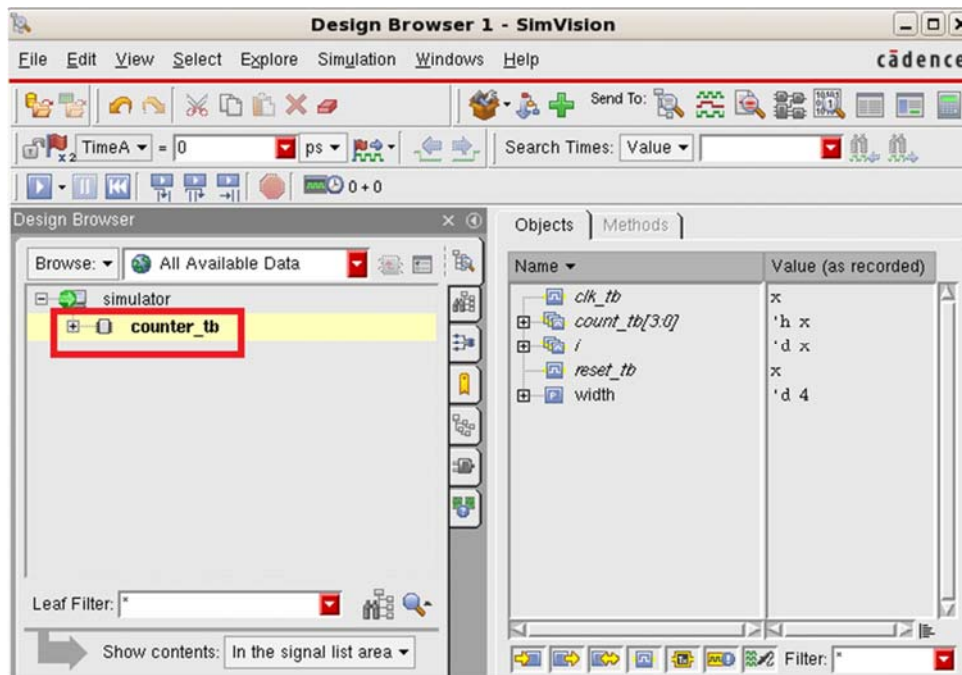

Figure Lab7-7 SimVision/Design Browser Window
8. Select **counter_tb** (as shown in Figure Lab7-7). **Right-click**→**Send To New**→**Waveform Window**. The related signals of counter_tb will be probed for display.